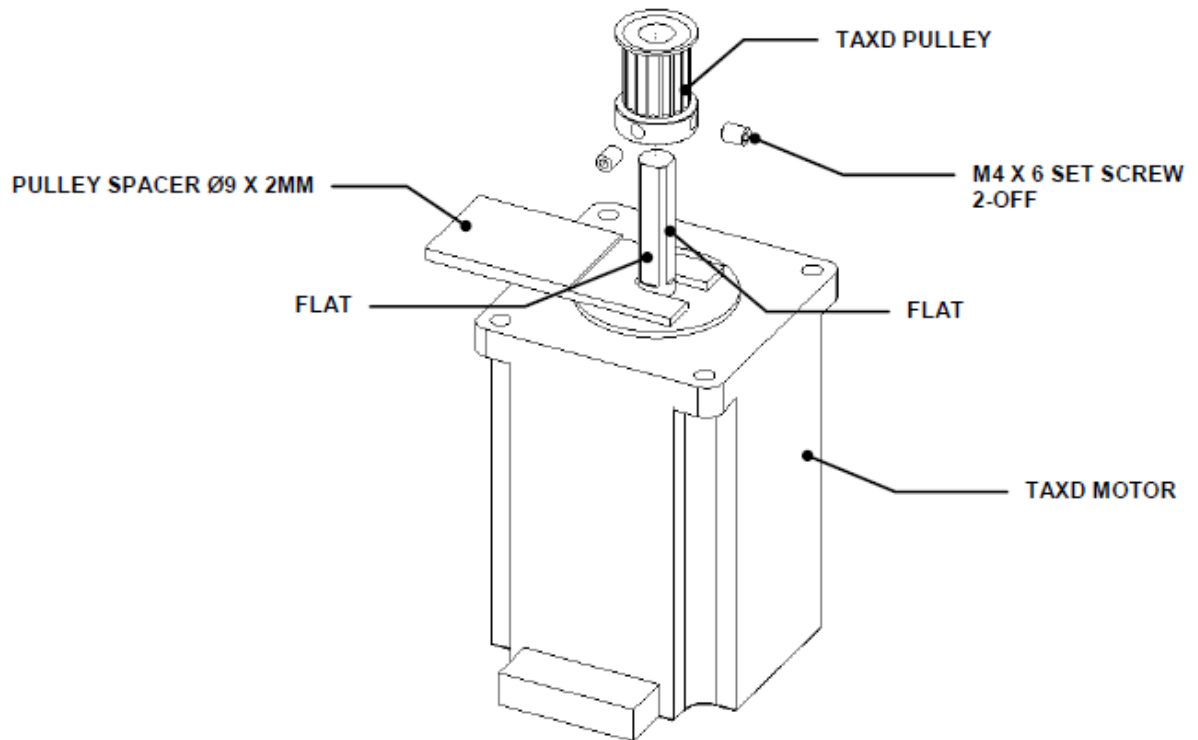

Figure X-7: Pulley Assembly
1. Attach the Pulley to the Motor Assembly with the Pulley Spacer Ø9 x 2mm (P24FIX006) fixture as shown in Figure X-7 using the two M4x6 Cone Point Set Screws and Loctite 222. Remove the fixture after the pulley has been affixed.